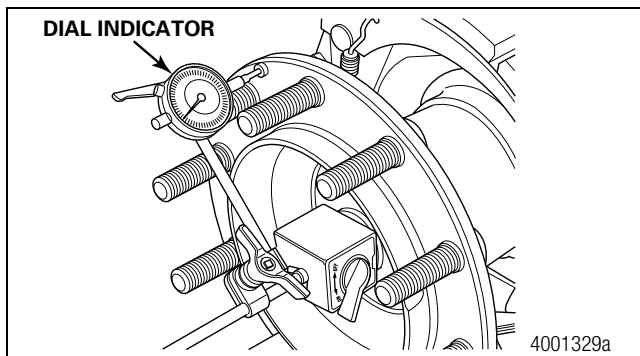

Figure 13.12
4. Remove the wheel and drum. Attach the magnetic base of a dial indicator to the end of the spindle. Figure 13.12. Touch the indicator stem perpendicular against the unitized wheel end's mounting face.